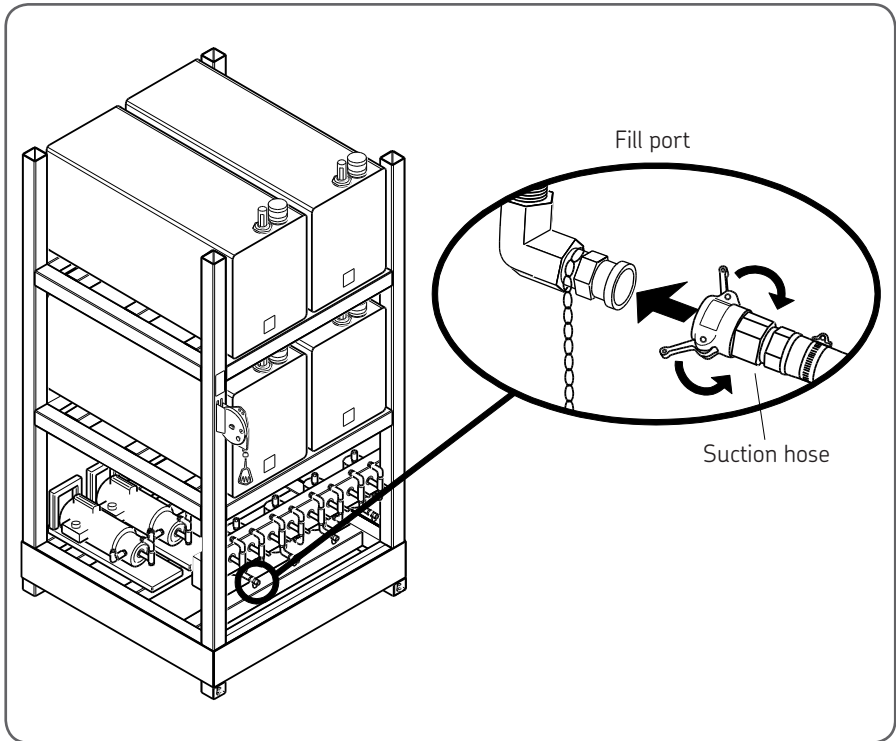

Fig 32 Attach suction hose assembly to fill port inlet
4. Attach the coupling-end of the suction hose assembly to the front of the unit. See figure 32.